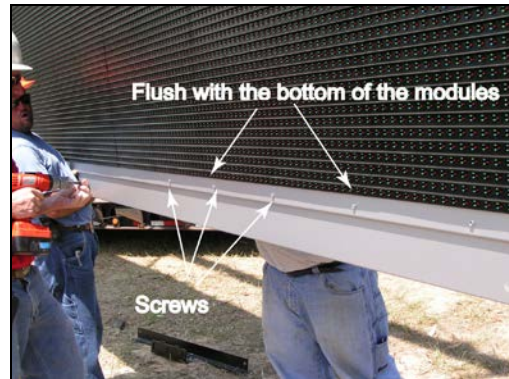

Figure 4: Attaching Bottom Border
24. Beginning at the end of the display that will be closest to the road, fasten the border to the display. Refer to **Figure 4**.